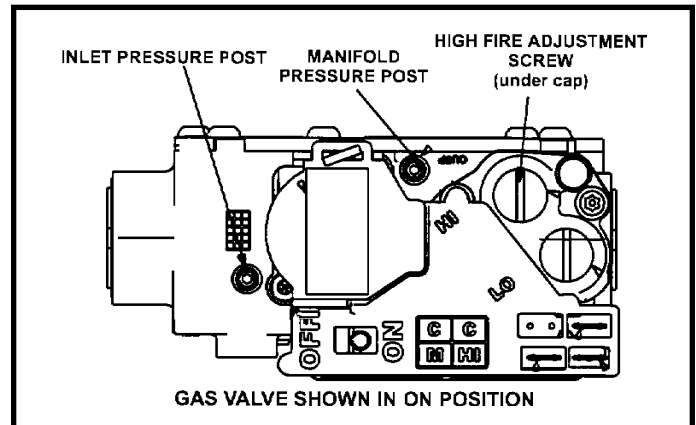

Figure 63
An inlet pressure post on the inlet side of the gas valve provides access to the supply pressure. See Figure 63. Back out the 3/32 Hex screw one turn, connect a piece of 5/16" tubing and connect to a manometer to measure supply pressure.
1. A manifold pressure post located on the gas valve provides access to the manifold pressure. See Figure 63. Back out the 3/32 Hex screw one turn, connect a piece of 5/16" tubing and connect to a manometer to measure supply pressure.